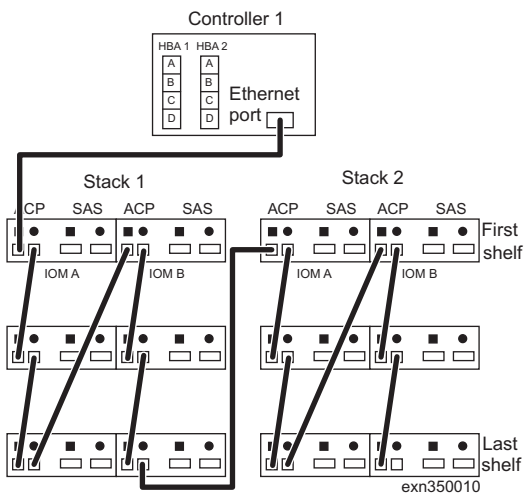

Figure 11. Cable the ACP connections
4. Cable the ACP connections as shown in Figure 11.